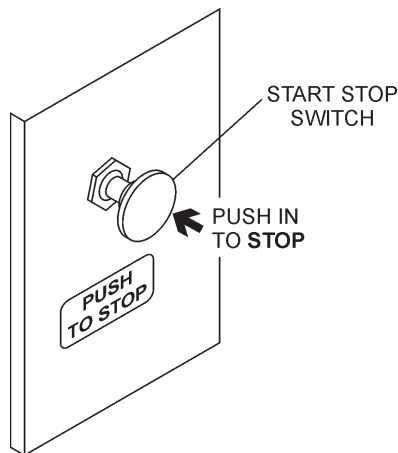

Figure 26. Start/Stop Switch (Stop)
1. Push the **start/stop** switch (Figure 26) inward to stop the engine.